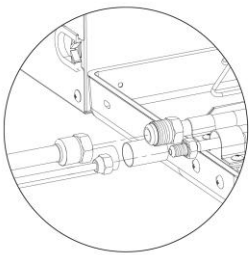

Fig. 15
- (1) Remove pipe cover and pipe plug.
- (2) Direct the flared part of copper pipe to the center of screwed joint. Twist on the flared nut tightly by hand, as in Fig.15. (Make sure indoor pipe is correctly connected. Improper location of the center will prevent flared nut from being securely twisted. Thread of nut will get damaged if the flared nut is twisted forcibly.)